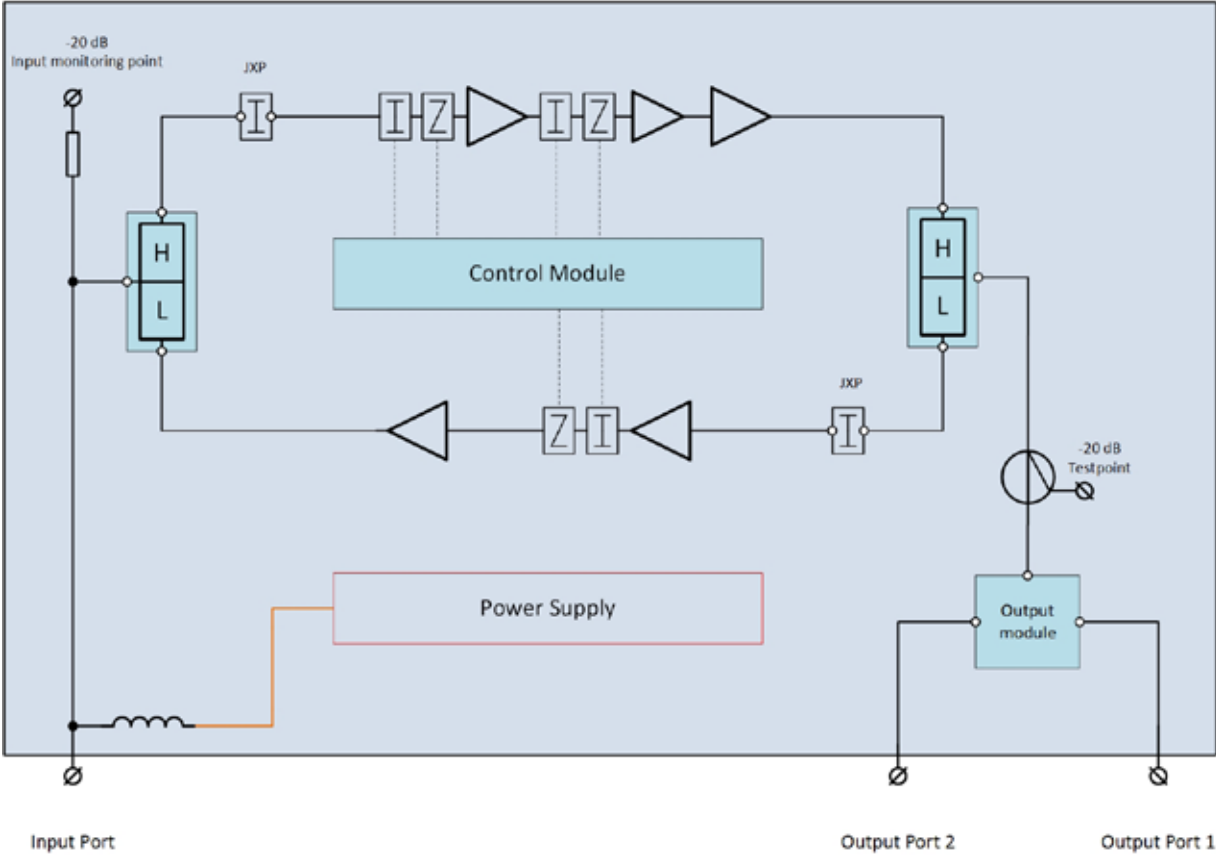

Fig. 3
3. Connect the earthing/grounding wire (*Fig. 3*) (in accordance with local electrical installation regulations) on the right-hand side of the housing. The maximum diameter of the grounding wire is 3.8mm.